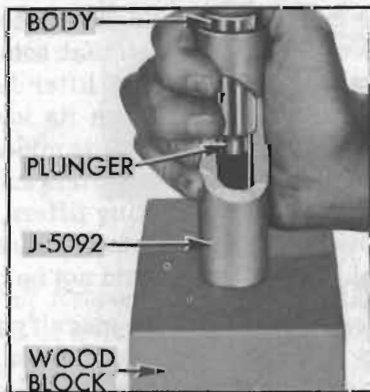

Figure 2-15—Removing Stuck Plunger with Remover J 5092
2. Remove push rod seat and plunger from body. If plunger is stuck in body, place the lifter in large end of Plunger Remover J 5092, with plunger inward. While holding lifter with thumb, rap the open end of remover against a block of wood with just enough force to jar the plunger from body. See figure 2-15.